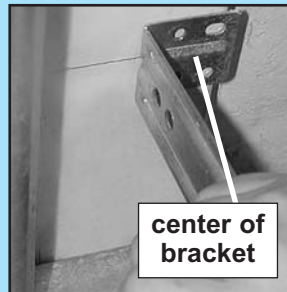

FIG. 4-2 Mounting brackets.
- Center bracket on your mark (Fig. 4-2).
- Fasten each with 2 screws (Fig. 4-2).